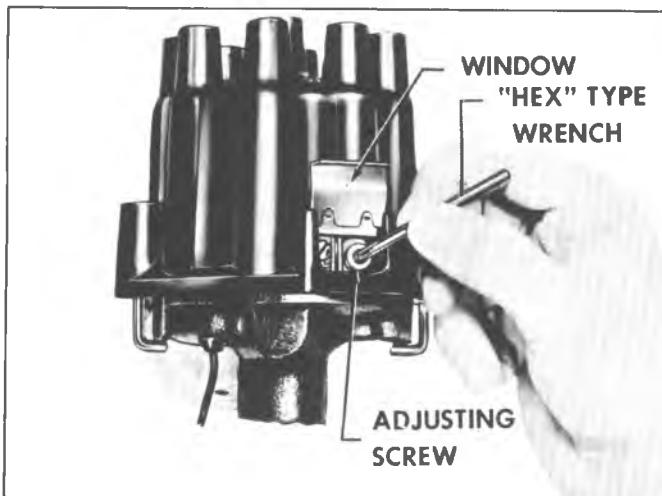

Fig. 14—Setting Point Dwell (Typical V8)
- With engine running at idle, raise the adjustment screw window and insert an Allen wrench in the socket of the adjusting screw (fig. 14).